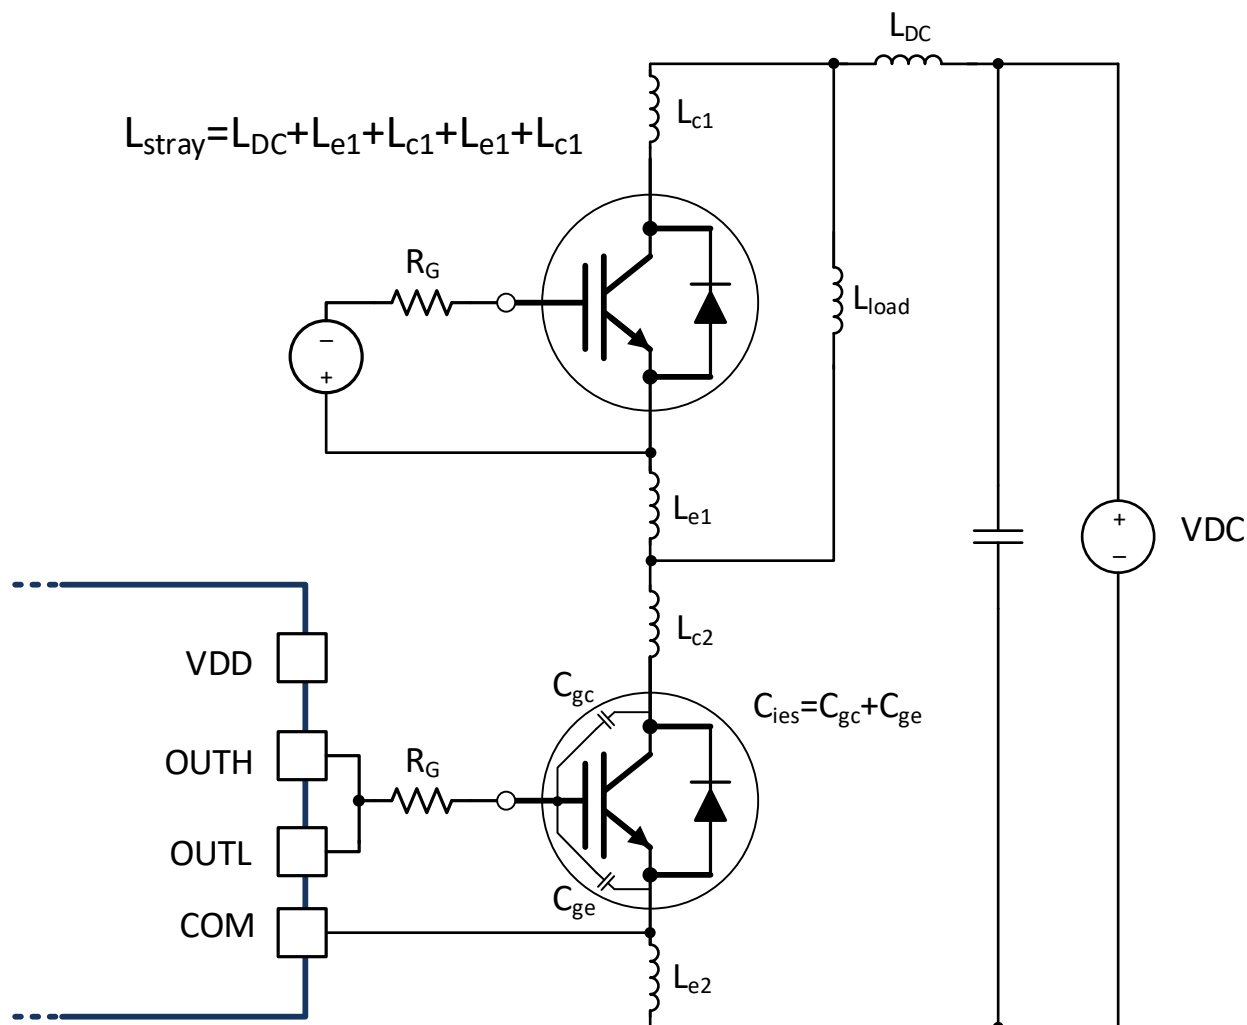

図 8-6. Stray Parasitic Inductance of IGBTs in a Half-Bridge Configuration
- $L_{\text{stray}}$  is the stray inductance in power switching loop, as shown in FIG 8-6